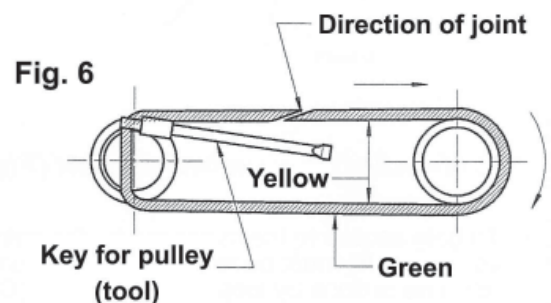

Fig. 7
- Rotate as shown in **F** to engage the belt on the assembly tool (**Fig. 7**).